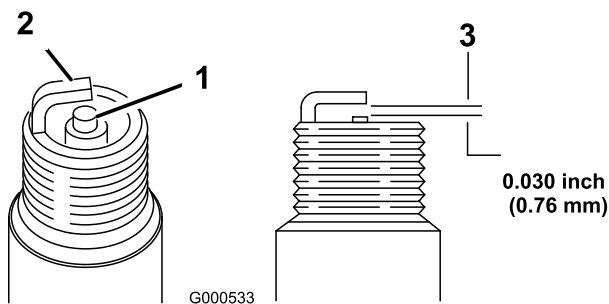

Figure 40
1. Look at the center of the spark plug (Figure 40).
2. Check the gap between the center and side electrodes (Figure 40). Bend the side electrode (Figure 40) if the gap is not correct.